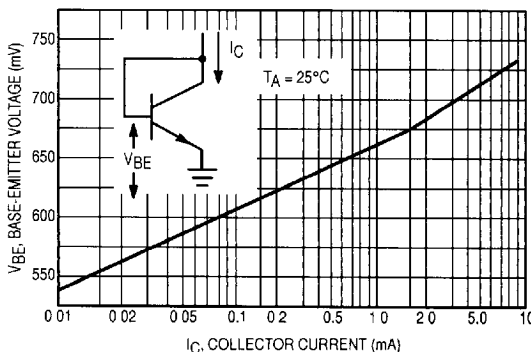

Figure 2. Base-Emitter Voltage versus Collector-Emitter Current
- For maximum temperature accuracy, I_C should not exceed 2 mA. (See Figure 2)